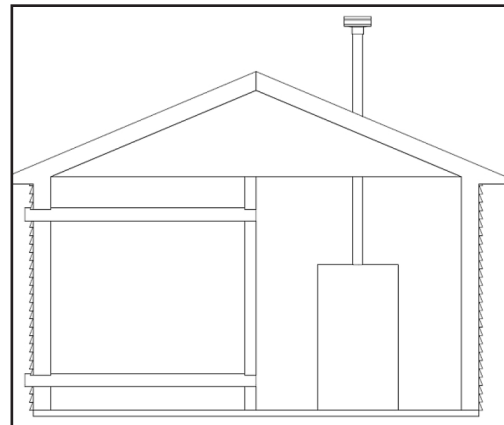

Figure 18 - Combustion Air through Ductwork
2. If combustion and ventilation air is taken from the outdoors using a duct to deliver the air to the mechanical room, each of the two openings should be sized based on a minimum free area of one square inch per 2000 BTU/hr input. See Figure 18.